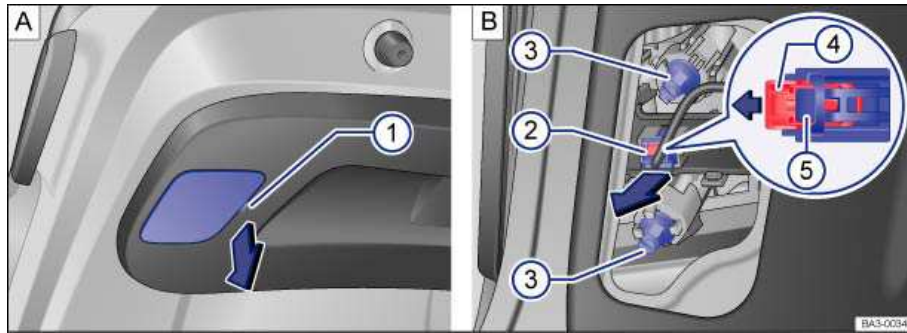

Fig. 221 A: In the luggage compartment lid: Removing the taillight cover. B: Removing the taillight assembly.
| 3. | Using the flat blade of the screwdriver in the vehicle tool kit carefully pry the cover out of the slot ⇒ fig. 221 A (1) (arrow). |
| 11. | Carefully reinsert the taillight assembly into the opening in the luggage compartment lid. Hold the rear light assembly with one hand in the installation position, and with the other hand tighten the fastening screws ⇒ fig. 221 B (3) . |